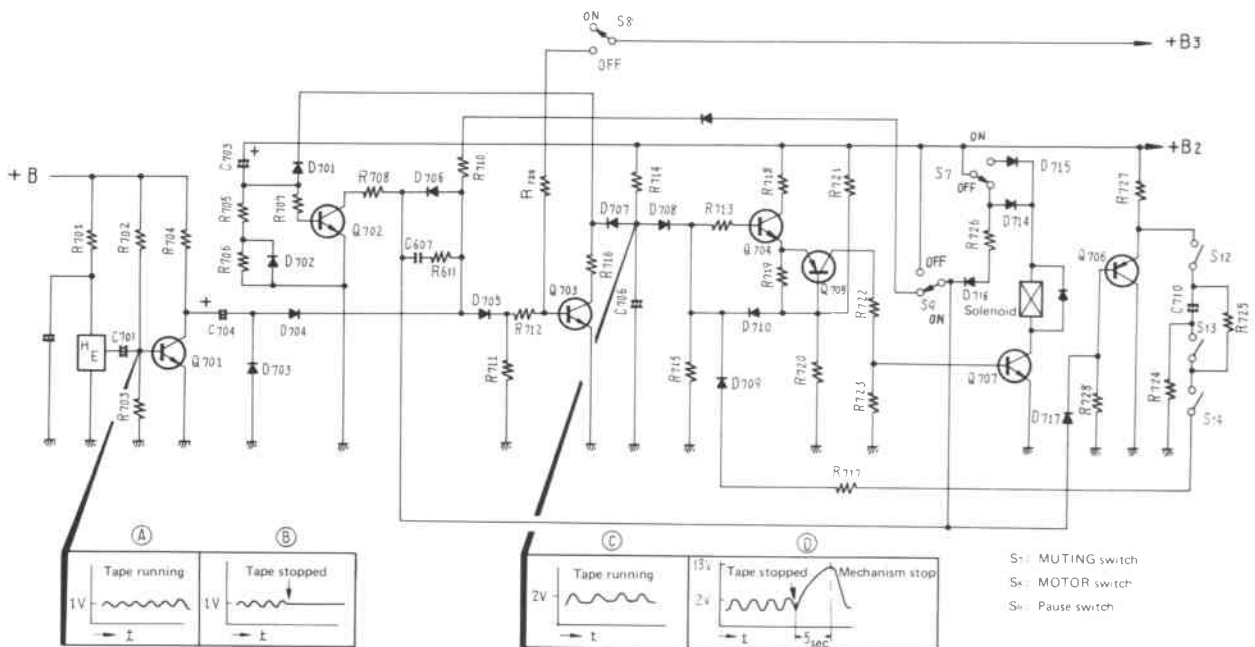

Fig. 17 Control circuit
### AUTO STOP operation (Fig. 17)
1. When the tape stops running, the base voltage of Q701 remains constant and the its collector voltage also remains constant, as shown in Fig. 17 (B).
4. When Q703 is turned OFF, C706 proceeds to charge and the anode voltage of D708 rises as shown in Fig. 17 (D).
8. When the tape is stopped in the REW (FF) state, current flows through the route +B2 →
**6.5 CONTROL CIRCUITS****AUTO STOP circuit (Fig. 17)**
1. While the tape is running the base potential of Q701 is changed as illustrated in Fig. 17 (A), by switching of the Hall element.
3. C706 is charged through the route +B2 → R714 → C706 → ground, but since Q703 is turned ON and OFF, the anode voltage of D708 is varied as illustrated in Fig. 17 (C).
**AUTO START circuit (Fig. 17)**
**MEMORY REWIND operation (Fig. 17)**